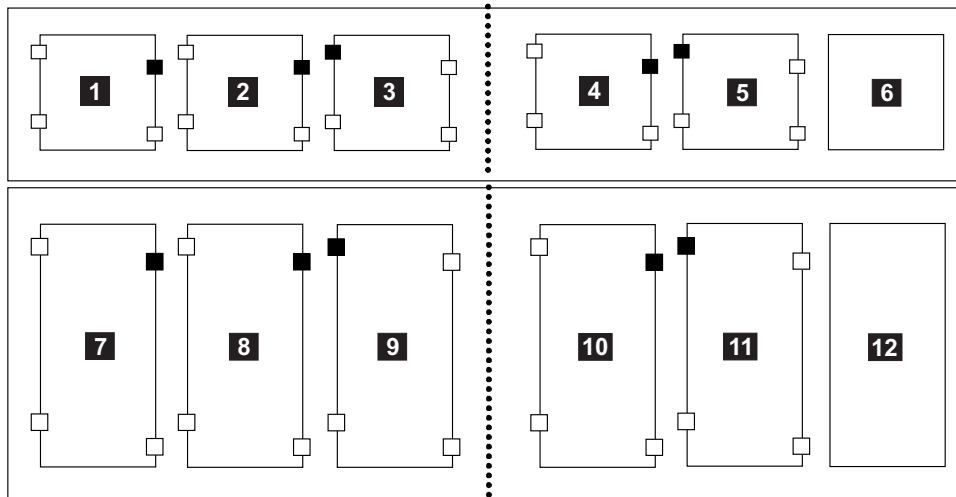

Figure 8-49. Correct fiducial placement
- a. Verify the correct position for the fiducial on the storage column by referring to the small black squares on the larger rectangles in Figure 8-49 on page 8-50.